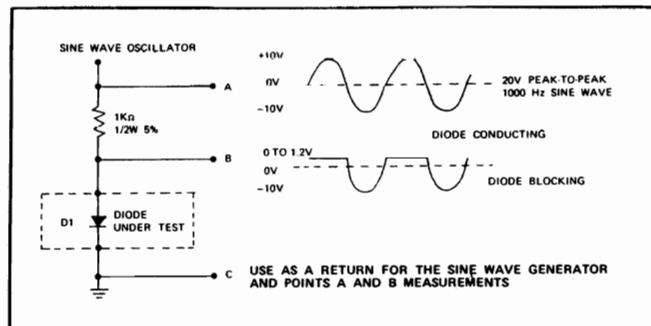

FIG. 13-63. DIODE TEST CIRCUIT. E-19825
3. Check the D1 diode on this panel by using a 20 v p-p, 1000 Hz, sine-wave oscillator; a 1000 ohm, 1/2w, 5% resistor; and a dual trace oscilloscope. Construct the diode test circuit shown in Fig. 13-63. The waveform between points B and C shows the diode conducting in the forward direction and blocking in the reverse direction.